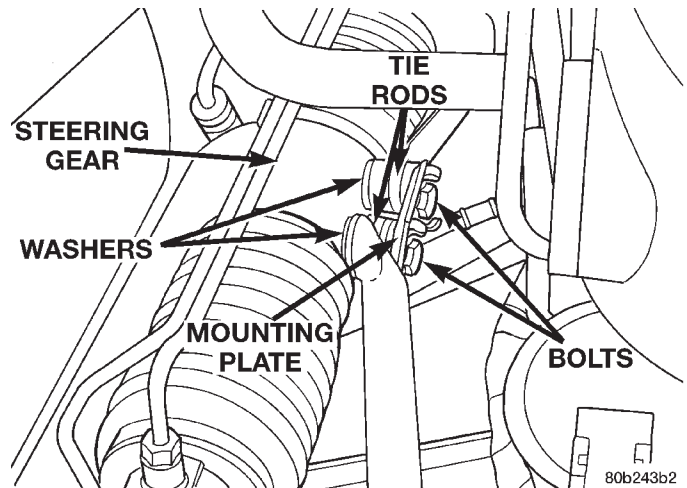

Fig. 10 Tie Rod To Steering Gear Attaching Bolts
(12) Remove the bolts, mounting plate and washers (Fig. 10) attaching the tie rods to the steering gear. Lay the tie rods on top of the transaxle bell housing.